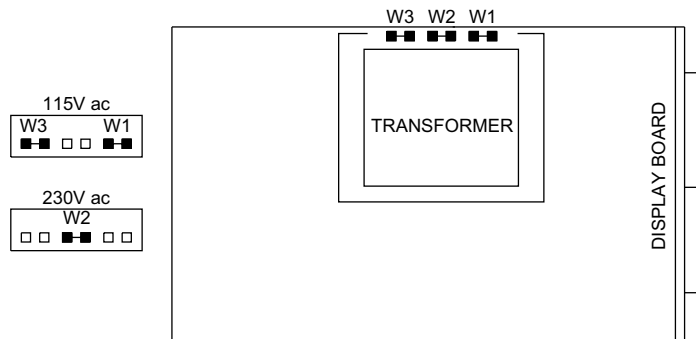

Figure 3.1 Main Board Power Jumpers (W1, W2, W3)
3.2 MAIN BOARD POWER JUMPERS (Refer to Figure 3-1)
Figure 3-1 shows the location of solder jumpers W1 through W3.